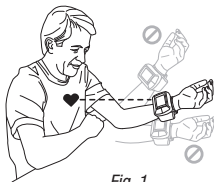

Fig. 1
1. Rest your elbow on a solid surface with your palm facing upward. Elevate your arm so that the cuff is at the same level as your heart, *Fig. 1*. Relax your left hand.